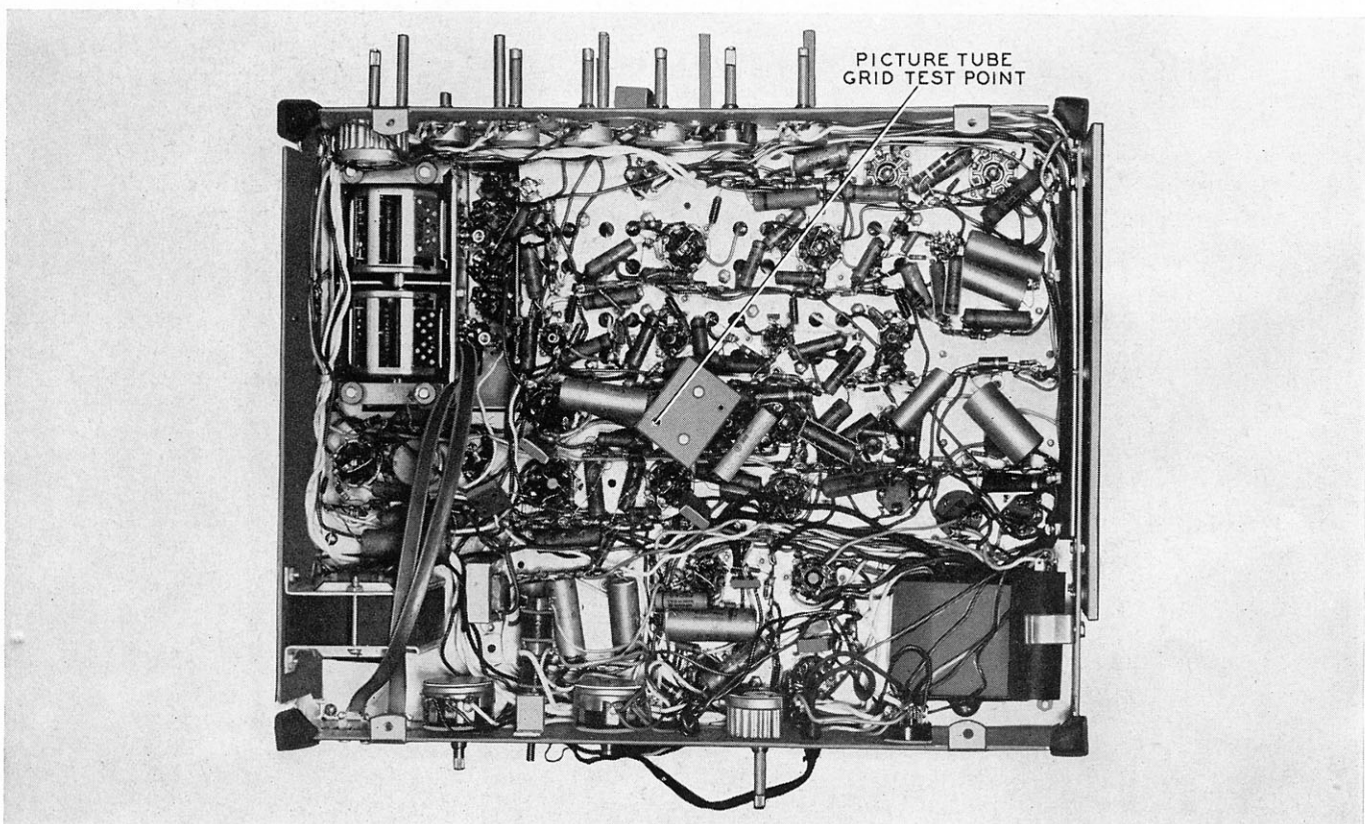

FIGURE 14. Picture-Tube Grid Test Point
10. Remove the oscilloscope from the "align" test jack and connect it to the picture-tube grid test point underneath the chassis (figure 14). With the CONTRAST control in the maximum clockwise position, a peak-to-peak voltage of 140 to 160 volts should be obtained, indicating a gain of 70 to 80 in the video amplifier stages.